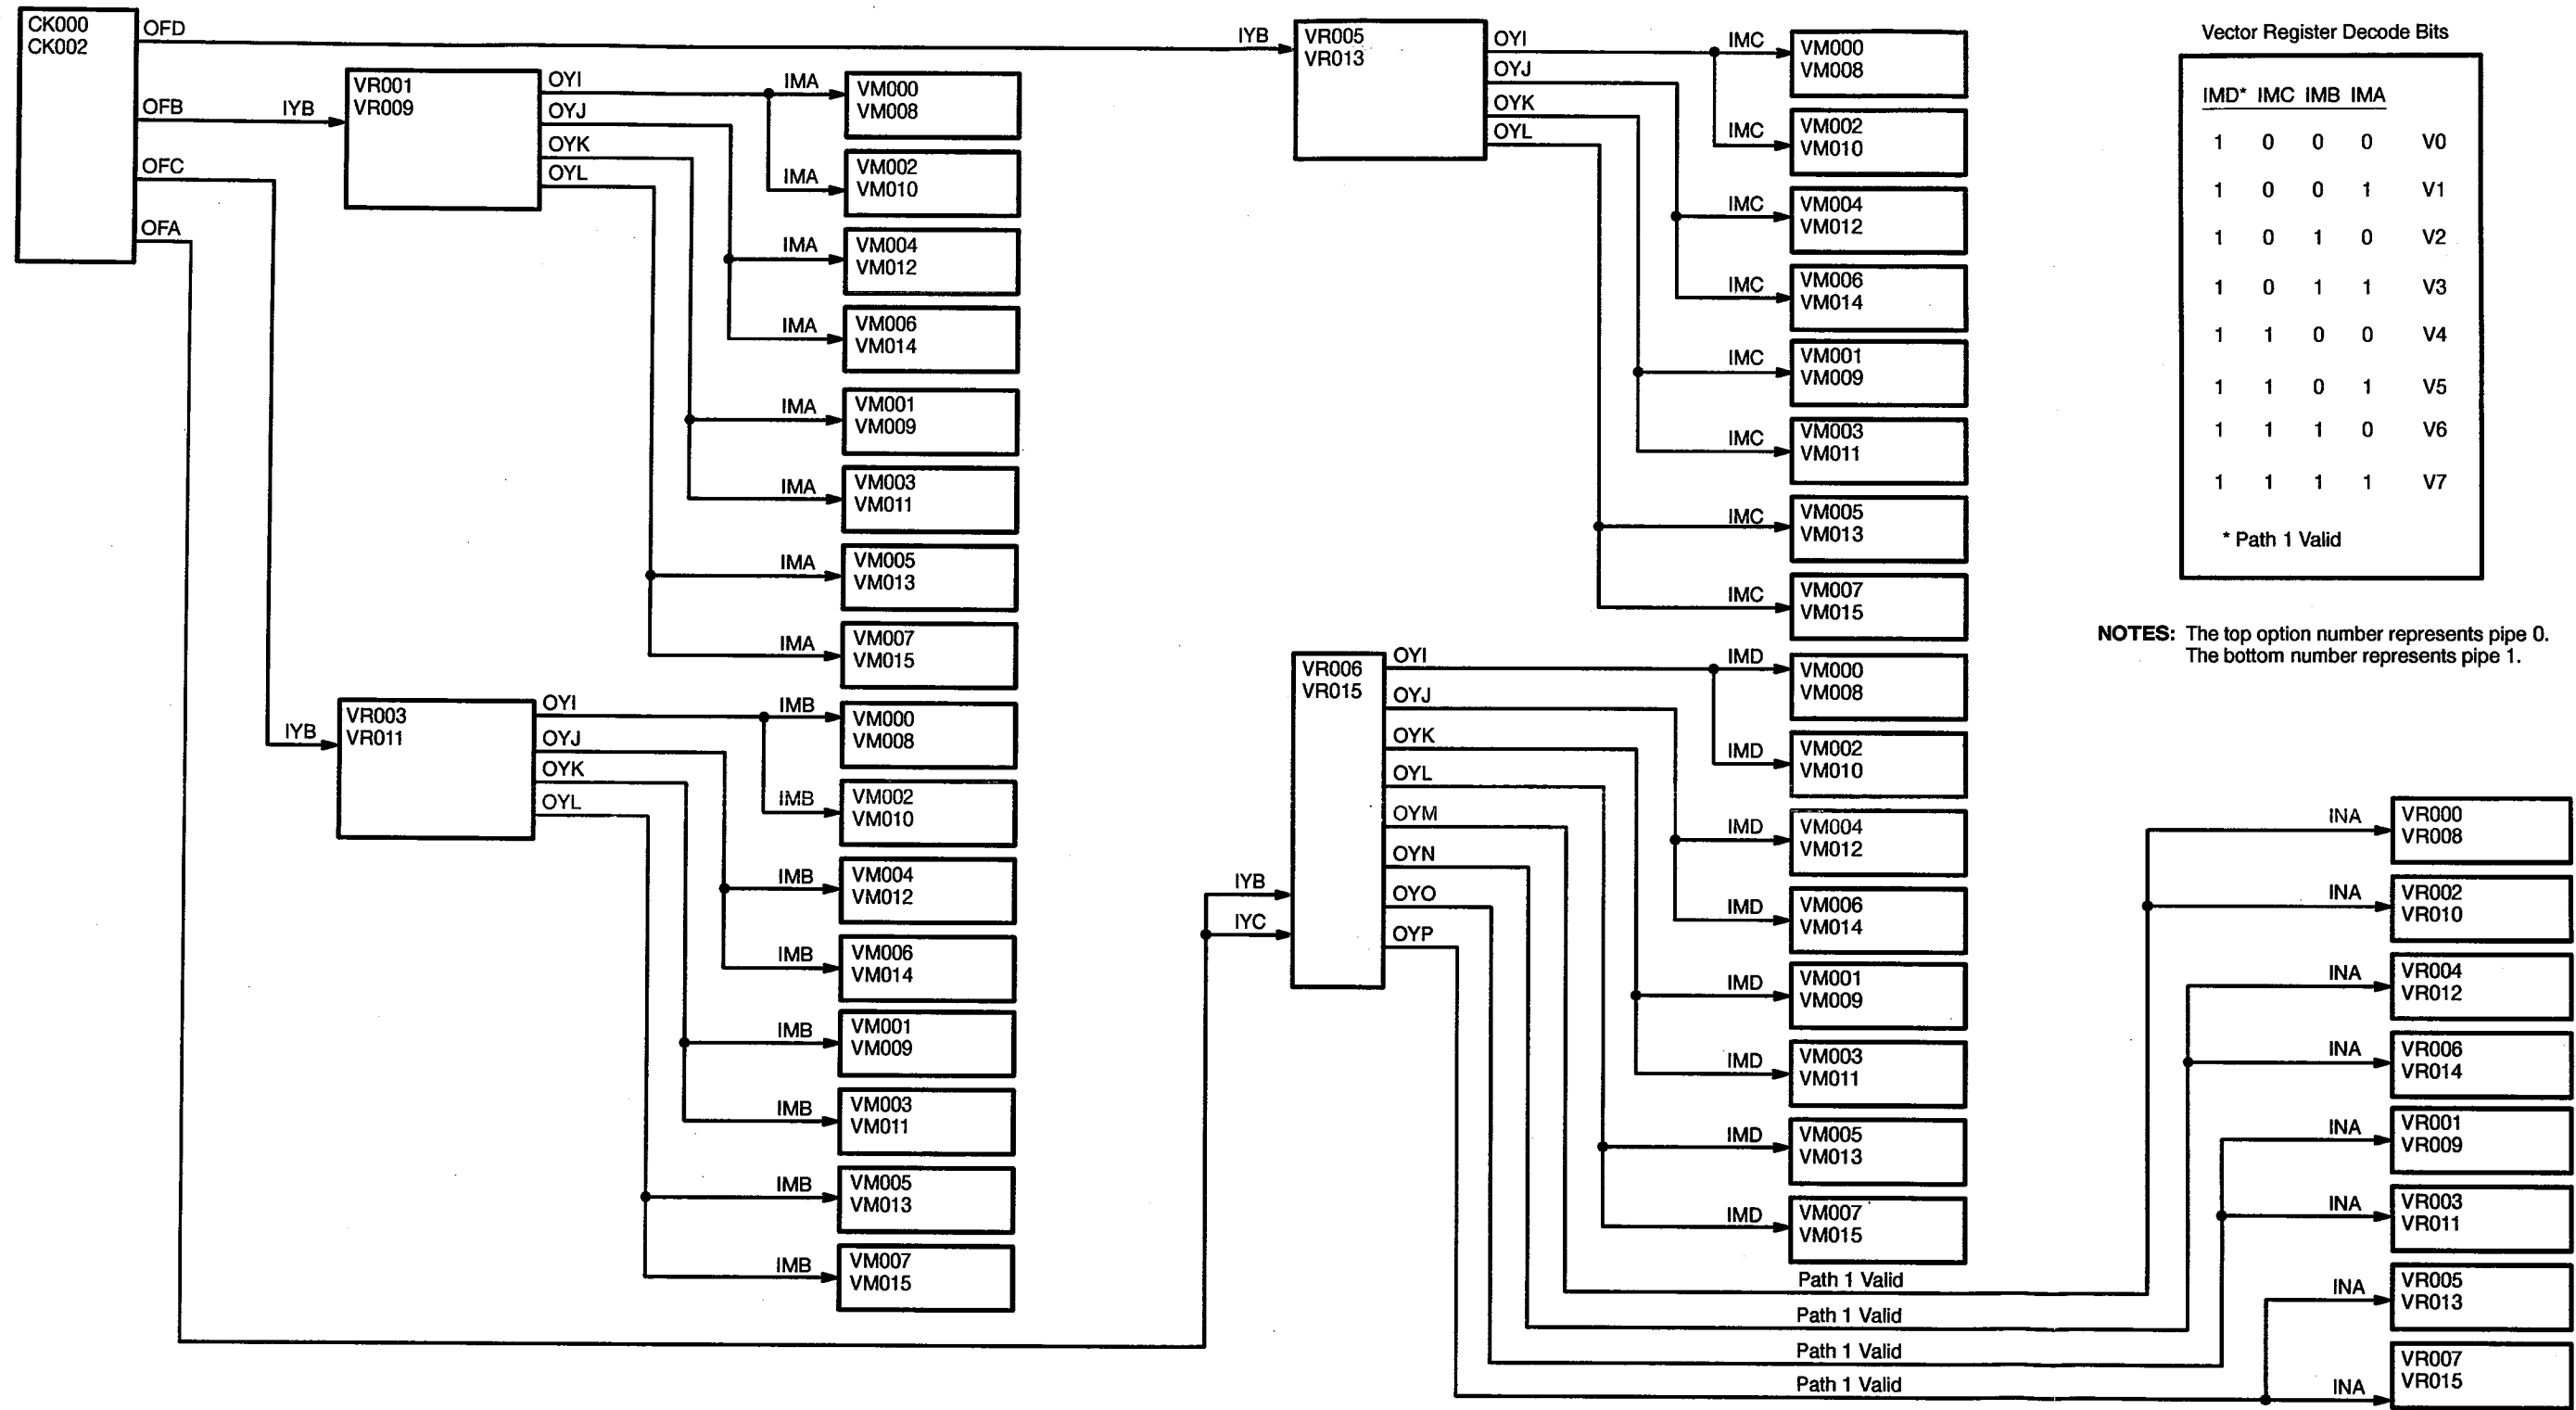

Figure 43. Vector Register Decode Bit Fanout (Pipe 0 and 1 Path 1 Only)
- Figure 43 – vector register decode bit fanout (pipe 0 and 1 path 1)